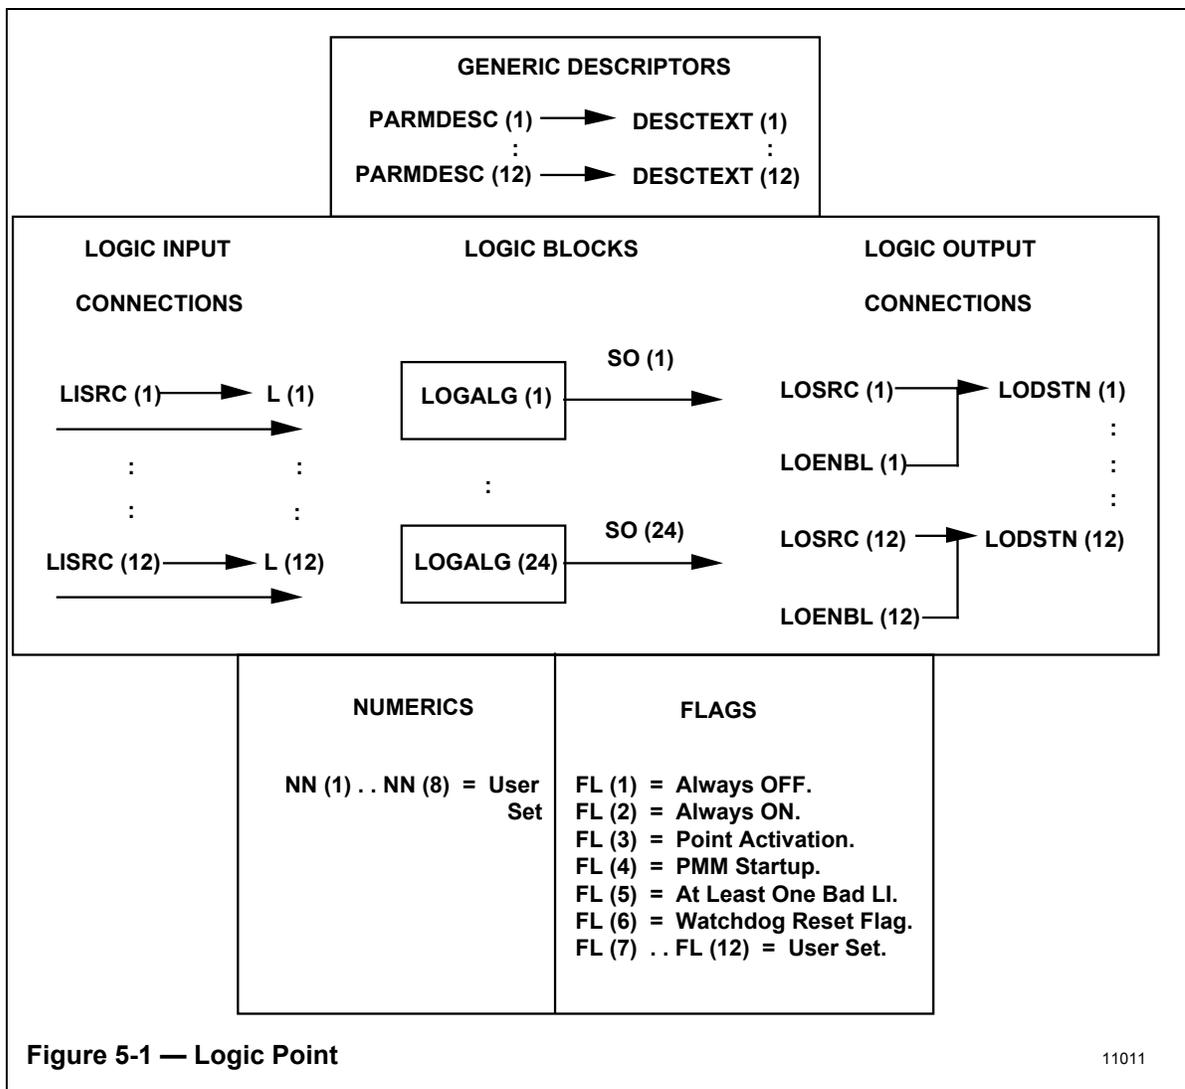

Figure 5-1 — Logic Point
The logic point provides a configurable mix of logic capability that, together with a digital composite point, provides the basis for integrated logic functions. The logic point is also fully integrated with the regulatory functions in the APM. A logic point consists of logic blocks, flags, numerics, user-defined generic descriptors, input connections, and output connections as shown in Figure 5-1.
Inputs to the logic point are assigned by the user during configuration by using logic input connections. The user can specify up to 12 inputs that are assigned to logic-point inputs L(1) to L(12), as shown in Figure 5-1. The logic input connections can be specified using the "Tagname.Parameter" format, or the hardware reference address format by using the LISRC parameter.